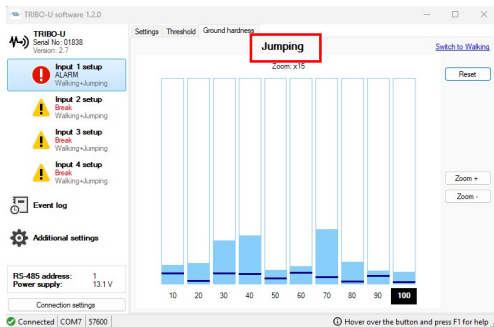

Fig. 30
- Simulate the movements of an offender in the protected zone (Fig. 30):